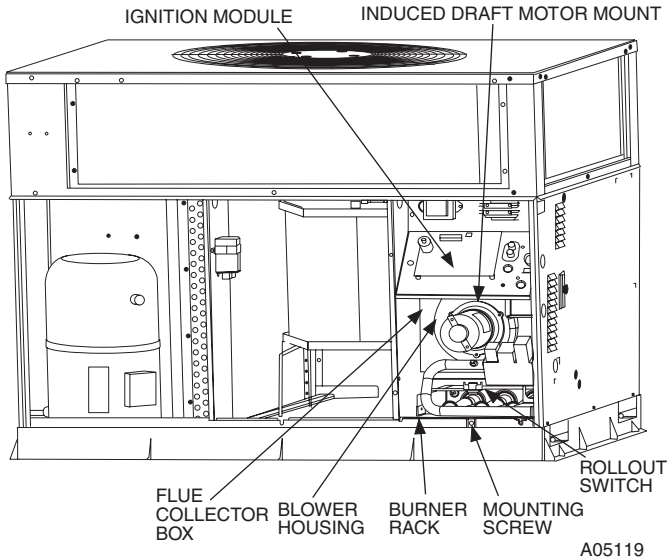

Fig. 16—Blower Housing and Flue Collector Box
2. Remove the 3 screws holding the blower housing to the flue collector box cover (See Fig. 16–19).
Unit is equipped with a direct spark ignition 100 percent lockout system. Ignition module is located in the control box (See Fig. 16). Module contains a self-diagnostic LED. During servicing, refer to label diagram for LED interpretation.
7. Remove the mounting screw that attaches the burner rack to the unit base (See Fig. 16).
8. Slide the burner rack out of the unit (See Fig. 16 and 19).